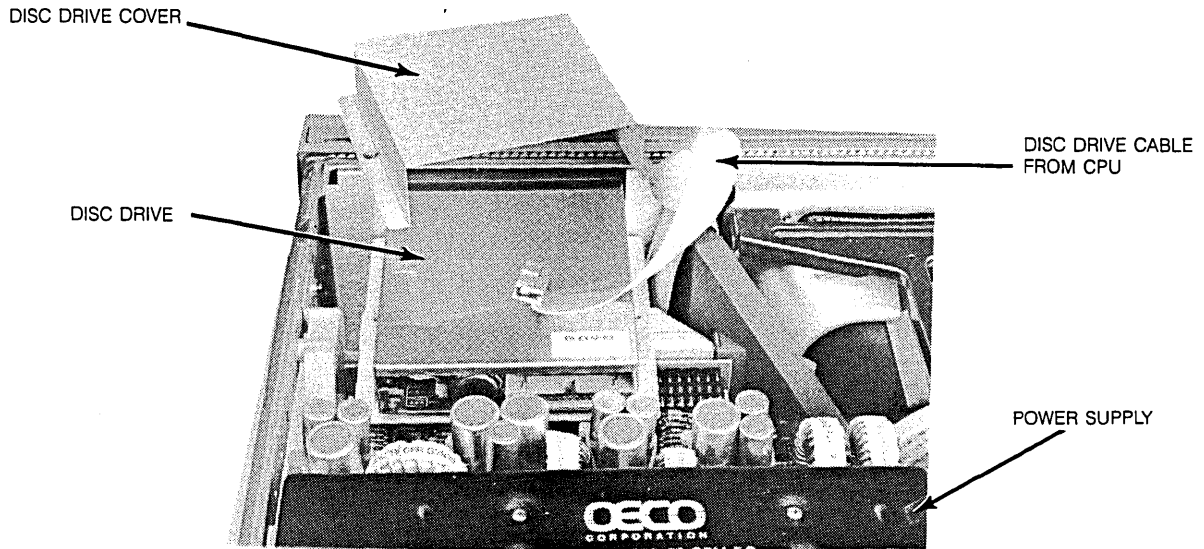

Figure 6-48. Front Disc Removal
- b. With a Torx T-8 driver, remove the two disc mounting screws (see figure 6-48).